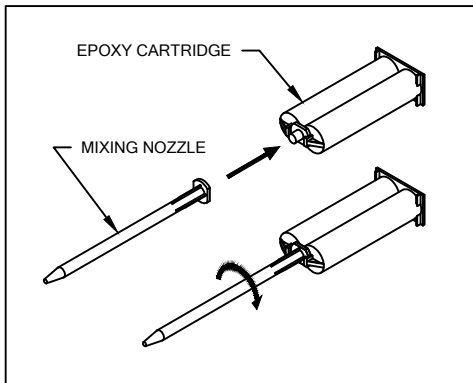

FIGURE 4.
- ONCE TESTED, FILL THE PILOT HOLE WITH ADHESIVE (REFERENCE CAULKING GUN CONVERSION KIT FIGURES 4 & 5) AND PERMANENTLY ATTACH ALUMINUM SPLINE. CAUTION: SERRATED LOCK WASHER MUST BE SECURELY TIGHTENED AND EMBEDDED INTO ALUMINUM SPLINE TO PREVENT ATTACHED END CAP FROM ROTATING.
EPOXY CARTRIDGE AND MIXING NOZZLE. REFER TO FIGURE 4.